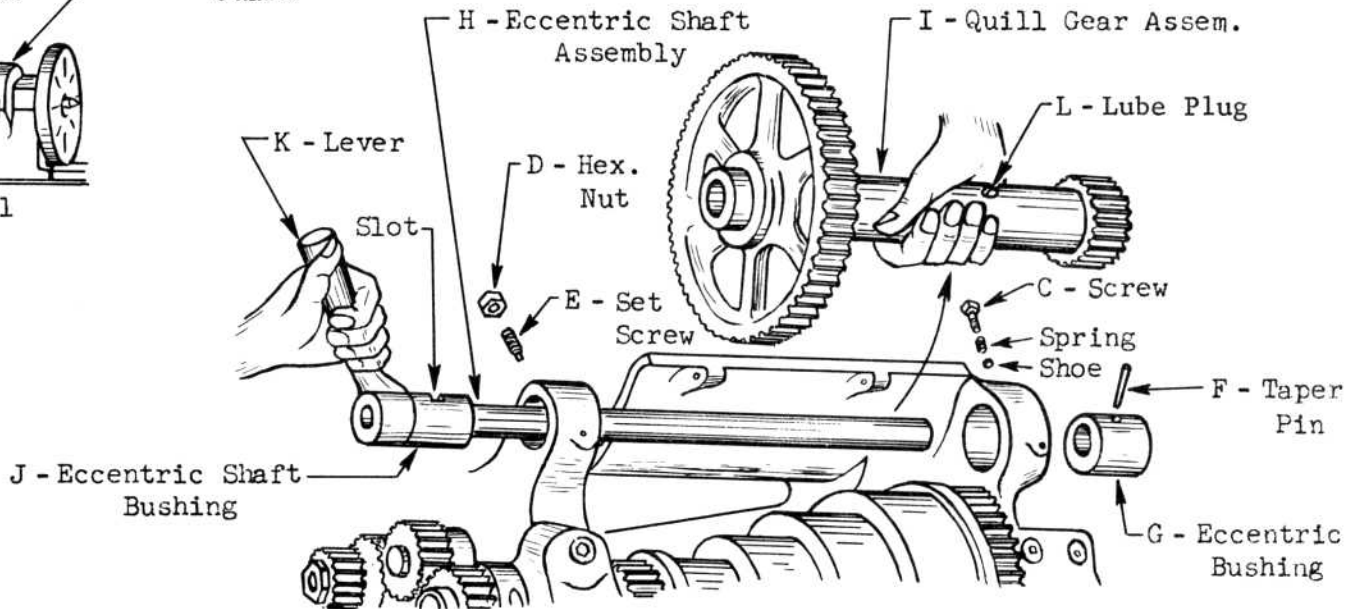

Fig. 2
2. Loosen screw "C" (Fig. 2).
3. Remove items "D" thru "I" (Fig. 2) in alphabetical order.